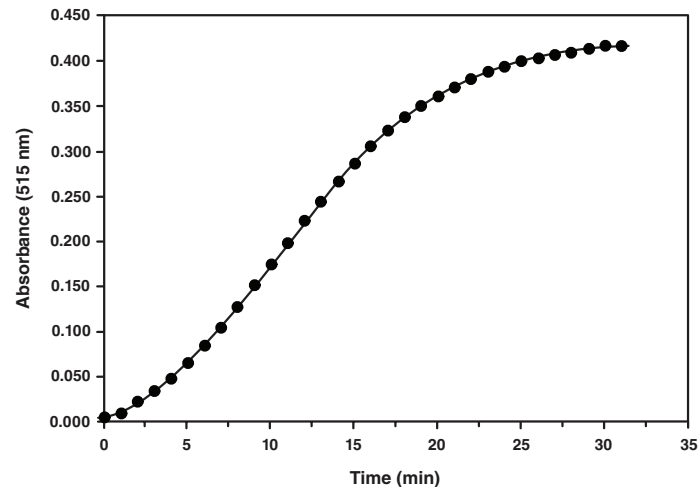

Figure 3. Human lysine specific histone methyltransferase SET7/9 assayed with 20  $\mu\text{M}$  TAF-10 as the acceptor substrate.
This assay is suitable for use with all purified SAM-dependent methyltransferases. It is necessary to titrate each enzyme/substrate system in the assay to determine optimal conditions. An example of human lysine specific histone methyltransferase, SET7/9, assayed with 20 µM of the acceptor substrate TAF-10, is shown in Figure 3 on page 15.4 Avoid the use of reducing agents (including DTT, β-mercaptoethanol, and TCEP) and metal chelators, such as EDTA and EGTA, as these have an inhibitory effect on the reaction. If these reagents are present, dialysis against 0.1 M Tris-HCl, pH 8.0, is recommended.
- a) Plot the absorbance values as a function of time to obtain the slope (rate) of the linear portion of the curve (an example of human lysine specific histone methyltransferase, SET7/9, assayed with 20  $\mu\text{M}$  of the acceptor substrate TAF-10, is shown in Figure 3 on page 15)